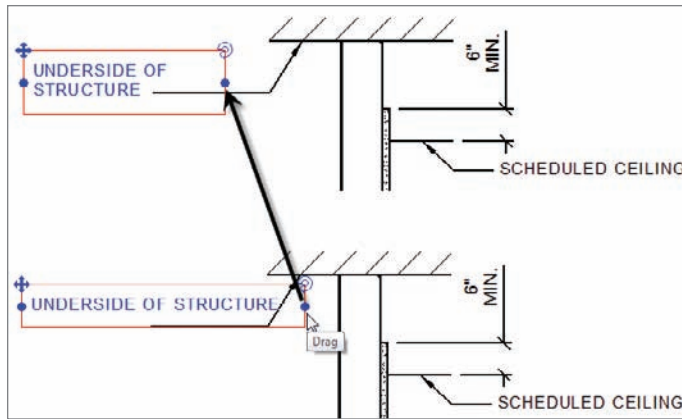

FIGURE 11.59 Fixing the improperly wrapped text
4. Pick the grip to the right, and drag the text box to the left until the text wraps into the correct position, as shown in Figure 11.59.